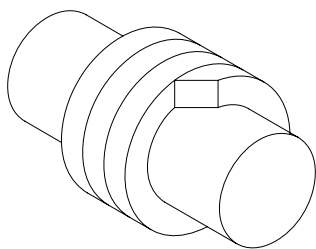

Figure 7.1
Before introducing the new gland packing, check the condition of the surface of the shaft (05) and its packing box (36). The shaft should have a polished surface finishing. Cut the rings to the required length with a 45° angle, as shown in Figure 7.1. Check that the cuts match the shaft. Gently open the rings (Figure 7.2) to allow the passage of the shaft, and place each of the term in turn. First insert the junction and then push the rings to the end.